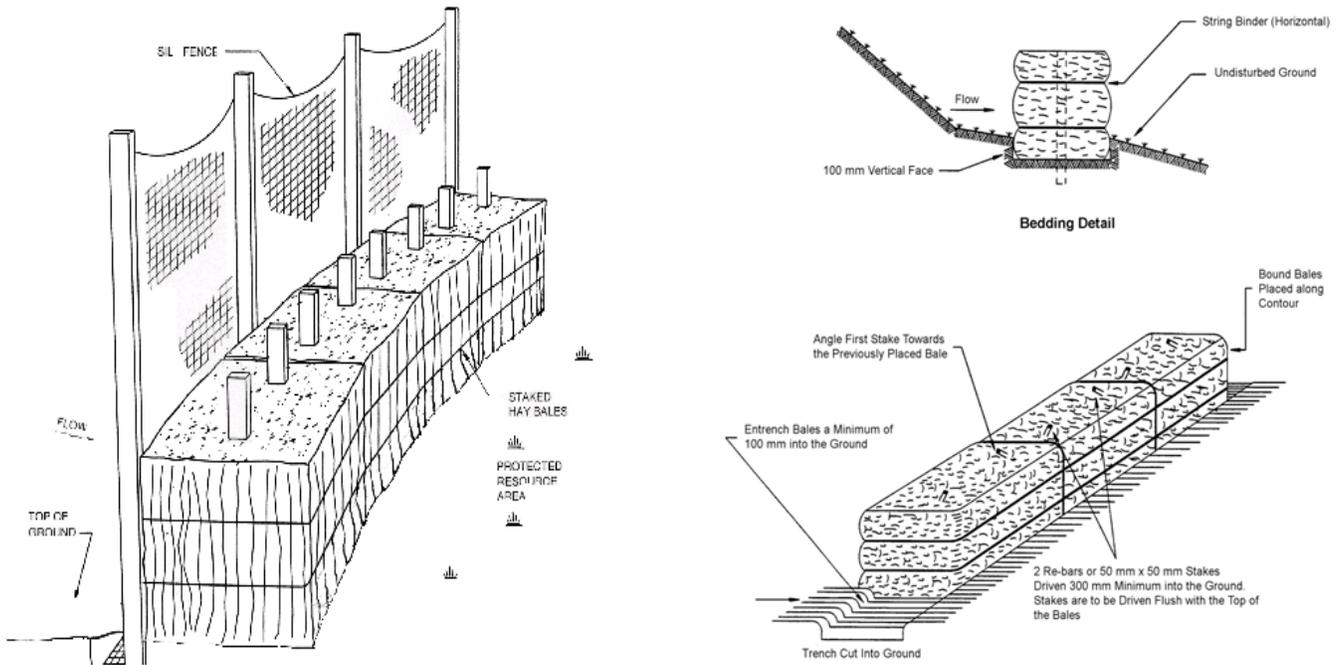

Figure 2 – Examples of Straw Bale/Slit Fence Barrier and Straw Bale Dike
- Protect all surface waters and wetlands from sediment by using straw bales and a silt fence between the excavation and the body of water or wetland (see Figure 2);